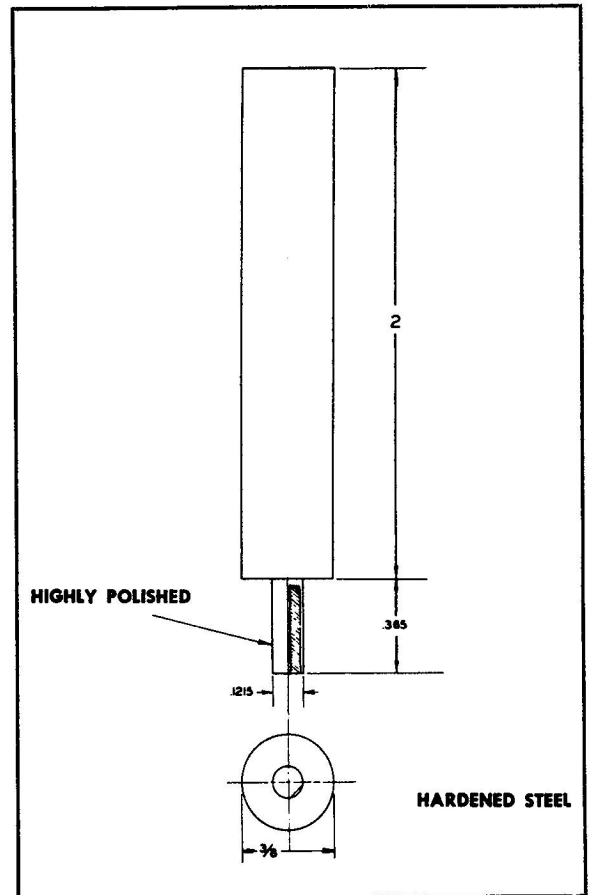

Figure 35 — Jewel Cylinder Burnisher
(1) Drop the jewel and mount into the jewel post. With the jewel post vertical the mounted jewel should fall to the bottom of the cylinder of its own weight. If it does not, remove and polish out with the burnisher. (See figure 35.)
(2) Drop in the spring with the "bent end" of the spring to the top. The top of the spring should be .030 inch above the top of the jewel post to obtain the proper tension when compressed.
d. JEWEL CYLINDER BURNISHER.—(See figure 35.) The jewel cylinder burnisher is used not to cut, but to polish the cylinder in the jewel post.